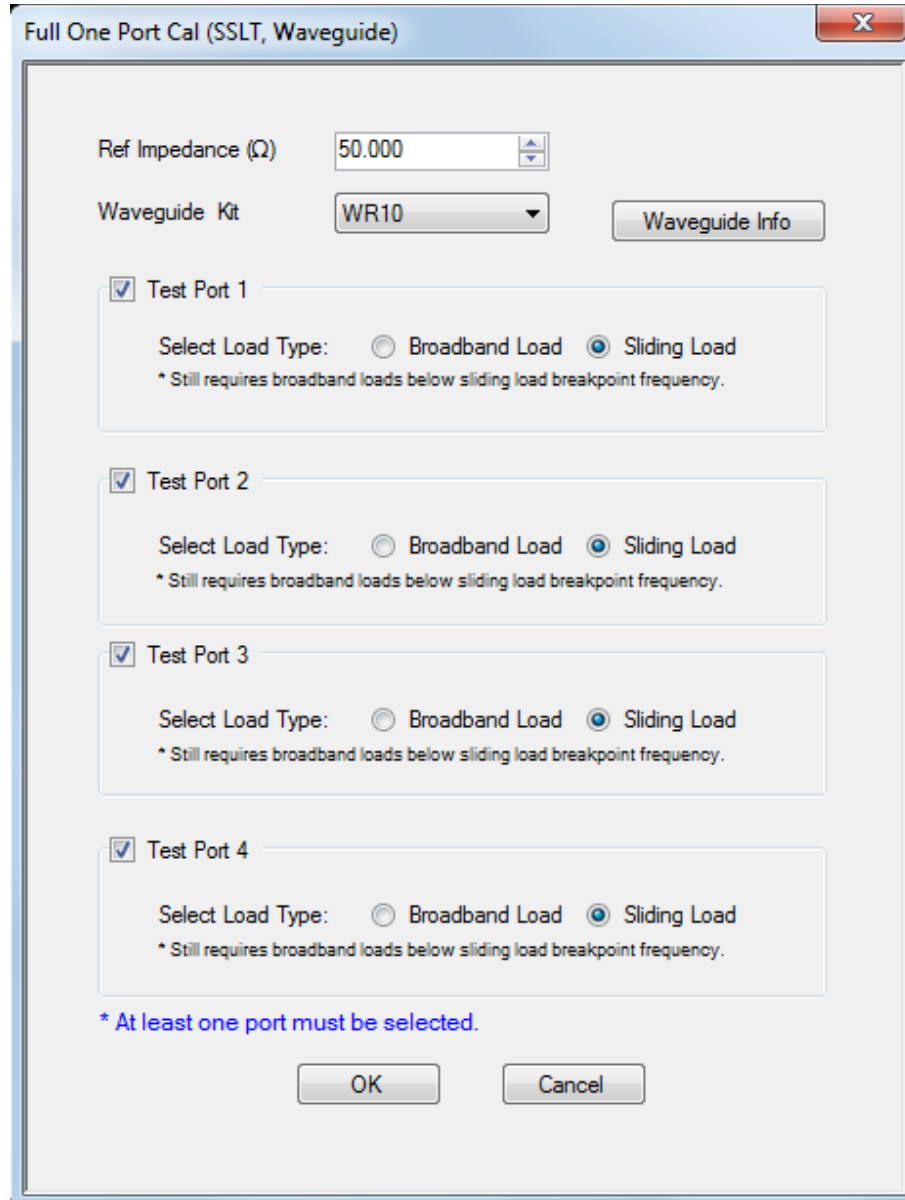

Figure 3-1. Full One Port Cal Setup Window
21. In the Full One Port Cal window (Figure 3-1 on page 3-7), select: